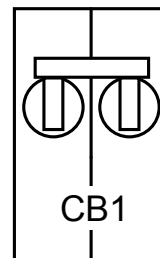

Figure 20. Main Circuit Breaker (CB1)
1. Place the main circuit breaker, CB1 (Figure 20) on the control panel to the **ON** position.